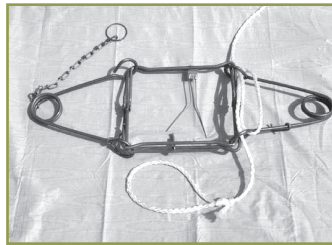

Figure SKF5b. Step 2
- 2) Bring the rope around and thread it back through the eyes a second time (Figure SKF5b).